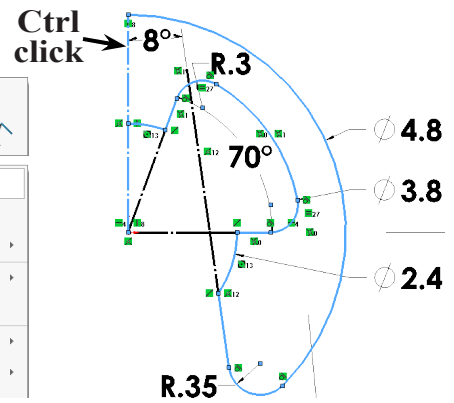

Fig. 17
Step 2. Ctrl click vertical centerlines to add to selection, Fig. 17.